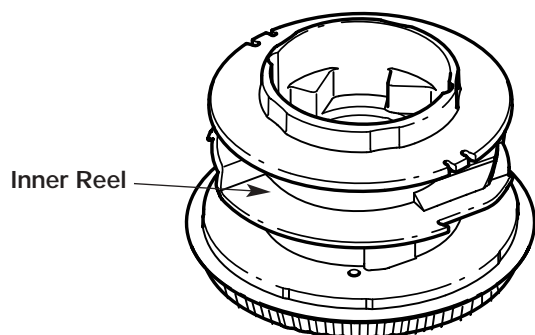

Fig. 55
4. Remove any existing line from the inner reel before cleaning. Remove any debris or grass from the knob, spring, inner reel and foam seal. Wash the inner reel with warm soapy water (Fig. 55).